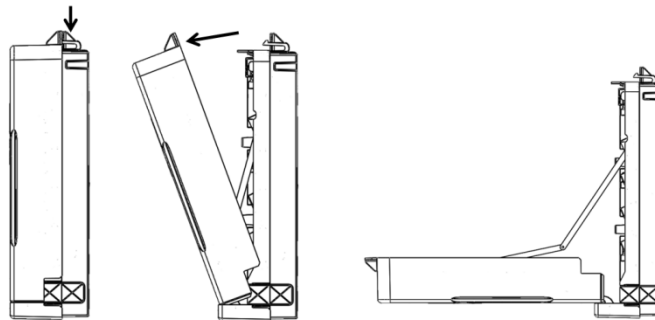

Figure 3 – Method to Open Cover
3.1.2 Depress plastic fitting to open the enclosure (Fig. 3)